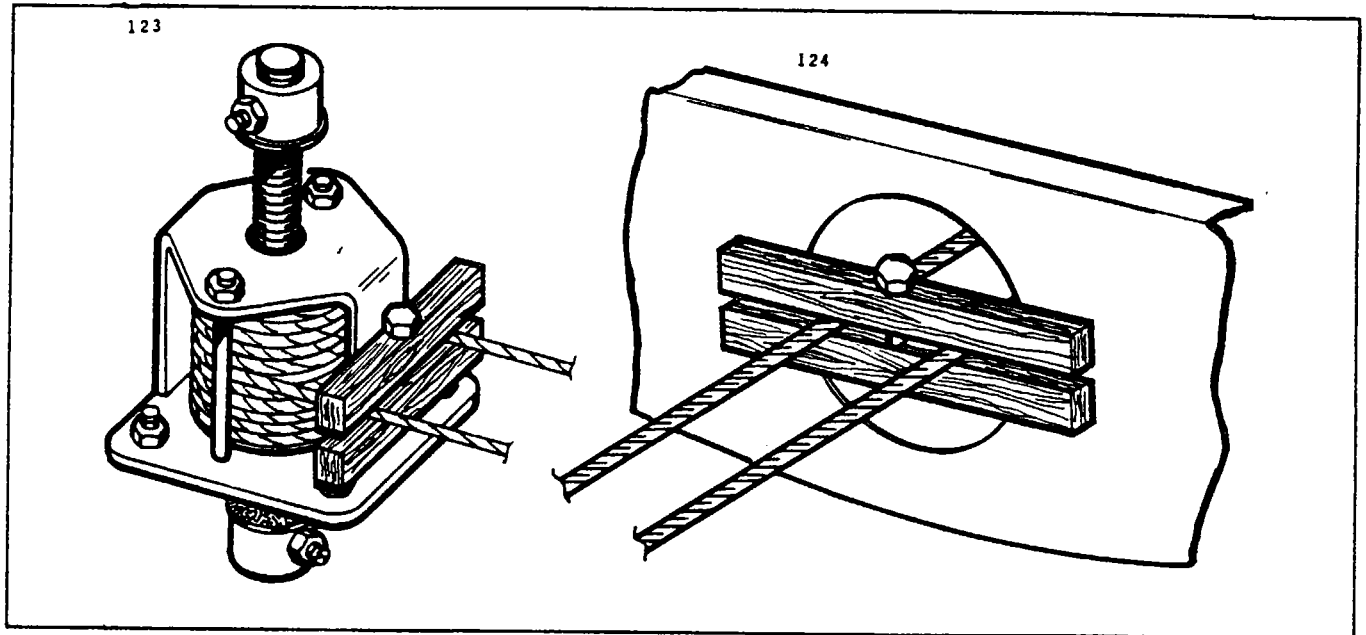

Figure 4-3. Methods of Blocking Trim Cables
3. Remove the access panel to the aft section of the fuselage. Block the elevator and rudder trim cables ahead of the main spar and in the aft section of the fuselage to prevent the cables from unwrapping at the trim drums. Refer to Figure 4-3. Disconnect the elevator and rudder trim cables between stations 274. and 318. and draw the cables forward through the main spar. To allow the cables to be drawn through the fuselage, remove the cable guard at station 244. and rub blocks at station 174. and 215.
- d. To remove the right stabilizer, locate the elevator trim cable turnbuckles in the aft section of the fuselage; mark the ends of one turnbuckle to facilitate reinstallation, and block the cables at one of the fuselage bulkheads and in the stabilizer to prevent the trim cables from unwinding. (Refer to Figure 4-3.)